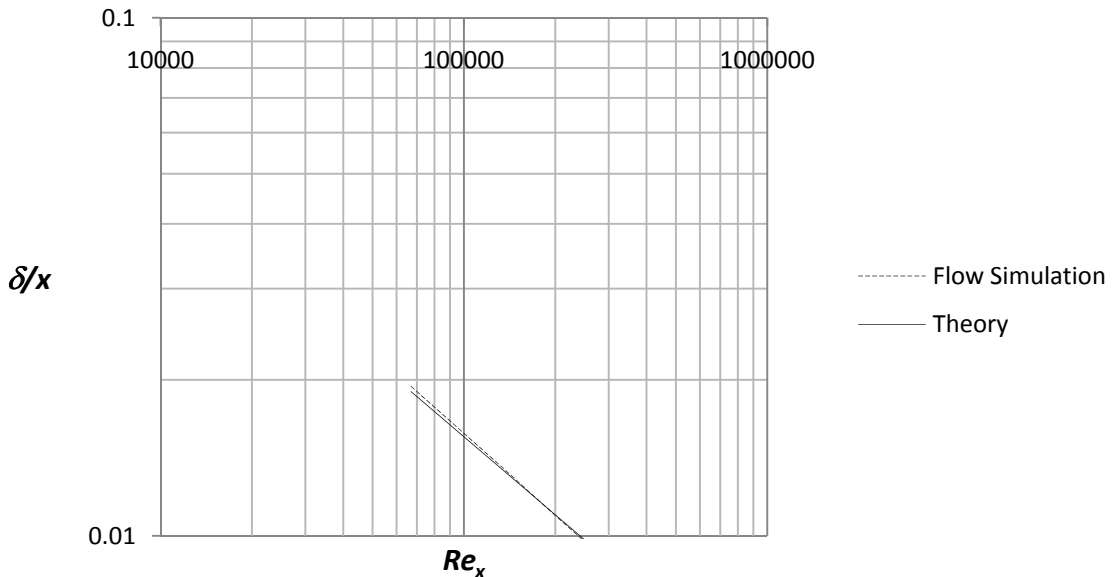

Figure 2.25b) Comparison between Flow Simulation and theory on boundary layer thickness
27. Place the file “xy-plot figure 2.25b)” into the **Local Disk (C:)/Program Files /SolidWorks (2)/SolidWorks Flow Simulation/lang/english/template/XY-Plots** folder to make it available in the **Template** list. Repeat step 24 and select the new template for the XY-plot as shown in figure 2.25b). Rename the xy-plot to **Boundary Layer Thickness**.